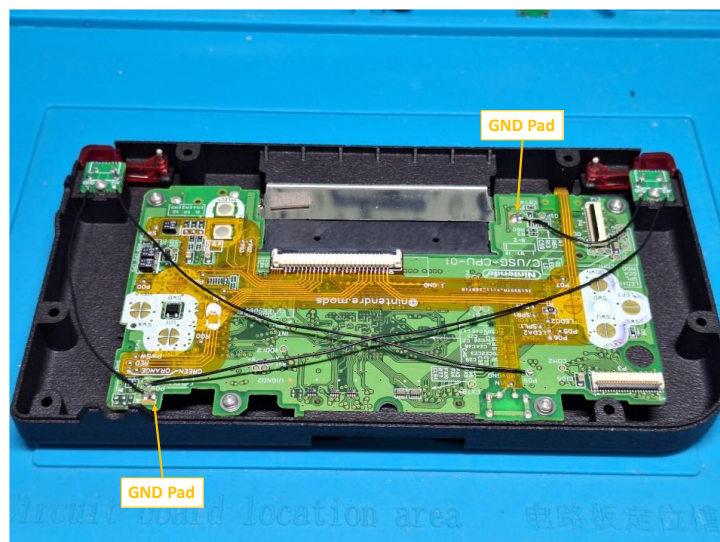

Figure 28: Trigger button PCBs connected to DS Lite motherboard with wires
10. Solder a wire from the “SW” pad on the left trigger button PCB to the test pad, labelled “P09”, on the motherboard as shown in Figure 28.
11. Solder a wire from the “SW” pad on the right trigger button PCB to the test pad, labelled “P08”, on the motherboard as shown in Figure 28.
12. Solder a wire from the “GND” pads on both trigger button PCBs to any ground pad on the motherboard as shown in Figure 28. There are several ground pads, and you can choose any of them.